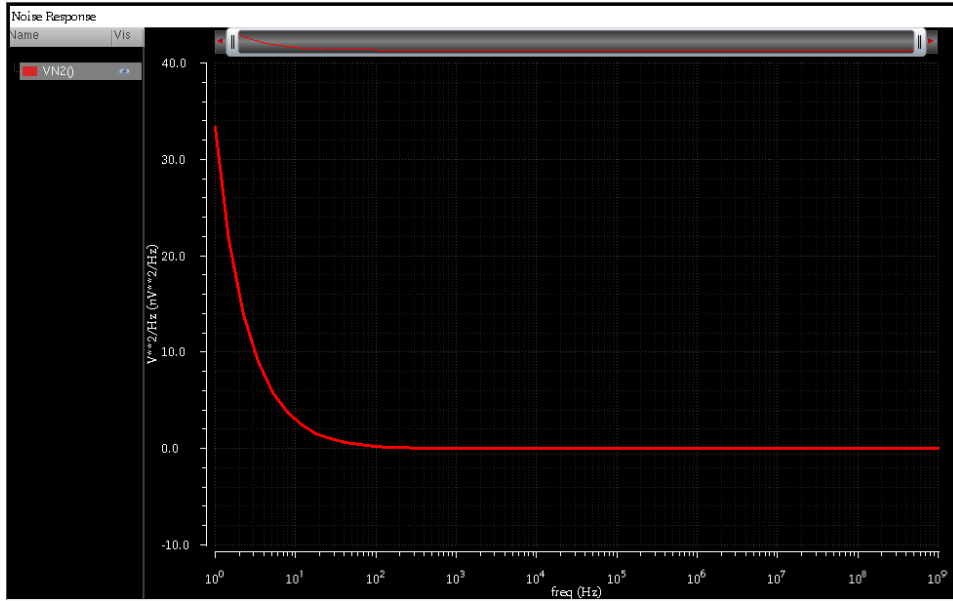

Figure 12(c).
**Step 4:** After running ADEL, select direct plot in the window and click on 'main form'. A main form window will appear as shown below in Fig. 12(d):